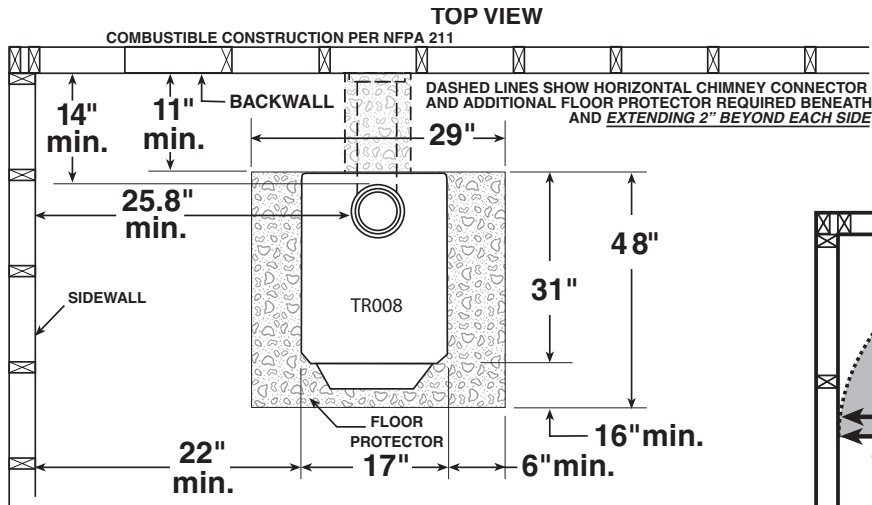

Fig. 5 – Top View Minimum Clearance Dimensions from Combustible Surfaces
- After properly locating floor protector (fig 5) to accommodate minimum stove clearances, place stove in position on floor protector.
- The stove must be placed on solid concrete, solid masonry, or when installed on a combustible floor, on a UL1618 Type 2 listed floor protector with minimum dimensions of 29" x 48", such as Hy-C or Imperial Model UL3048BK or equivalent. Floor protector must be 1/2" minimum thickness (R value = 0.84, see page 22 for calculation formulas) non-combustible material or equivalent. The base must extend at least 16" beyond the front of the access door, 8" to the sides of fuel opening. It must extend under and 2 inches beyond either side of the stove pipe if it is elbowed towards a wall. (See figures 5 & 7 and consult local building codes and fire protection ordinances.)
- After observing the clearances to combustible materials (figures 5–7), locate your floor protector accordingly (figure 5) and carefully place the stove in your selected location. Install stove pipe, elbows, and thimble as required, utilizing either a recently cleaned and inspected 6" masonry chimney or a 6" i.d. listed type HT chimney.
- Use round 6"/152mm dia., minimum 24 MSG black or 26 MSG blue steel stove pipe to connect the stove to the chimney. **DO NOT USE GALVANIZED PIPE AS A CONNECTOR.** Secure pipe sections with three (3) sheet metal screws no more than a maximum of 3"/76mm apart in each stove pipe and/or elbow joint to firmly hold the pipe sections together. **DO NOT CONNECT THIS STOVE TO ANY AIR DISTRIBUTION OR DUCT SYSTEM.**
CAUTION: (FIRE HAZARD) CARPETING AND OTHER COMBUSTIBLE MATERIAL SHALL NOT COVER THE FLOOR PROTECTOR. THESE MATERIALS MUST REMAIN OUTSIDE OF COMBUSTIBLE CLEARANCES, SEE FIG. 5 – 7.